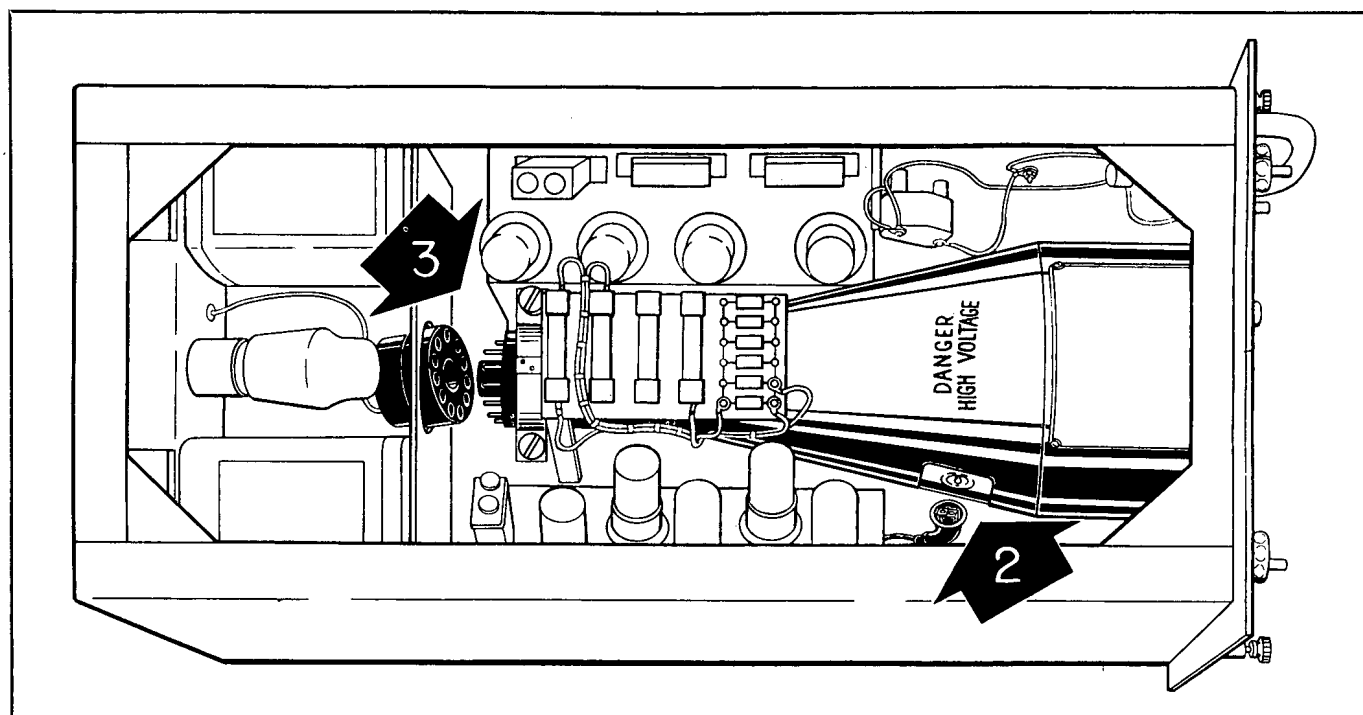

Figure 7-35. Disconnecting Cathode Ray Tube in Range Scope
by its rubber cover and squeeze it together so that it can be removed from the connector. **DO NOT PULL THE CONNECTOR OFF WITHOUT SQUEEZING IT. THE TUBE MAY BE DAMAGED.** After the high voltage lead has been disconnected, **GROUND IT TO THE CHASSIS BEFORE PROCEEDING FURTHER.** The high voltage lead is shown in Fig. 7-35.
(5) Gently remove the socket from the base of the tube. See Fig. 7-35. Then unscrew the knurled screw on the base clamp.